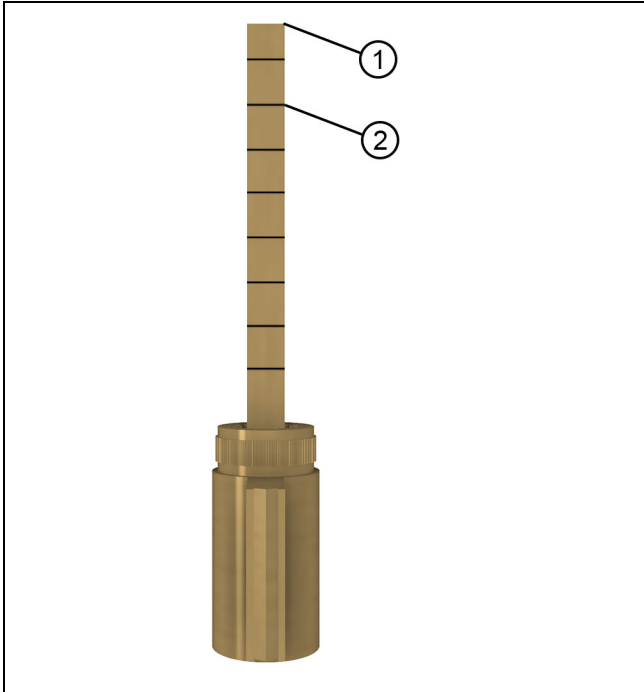

Figure 2
1. Before installing the lock cylinder you will need to trim the tail piece to the appropriate length. Refer to Figure 2 for the correct location based on your door configuration.